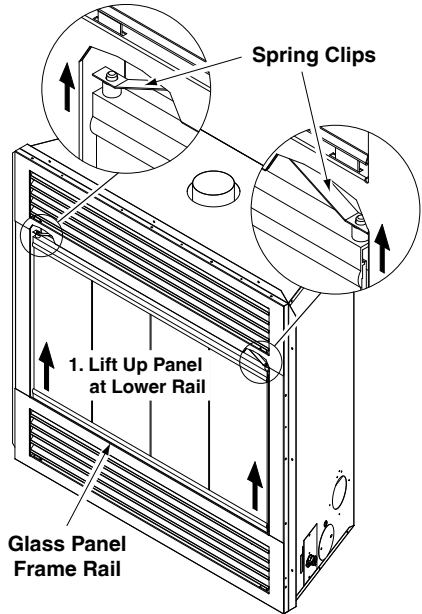

Figure 29 - Removing/Replacing Glass Door
1. Placing a screw driver or your finger tips into gap between lower glass panel rail and bottom face frame, lift glass door assembly until door pins clear locating holes in bottom face frame (see Figure 29).